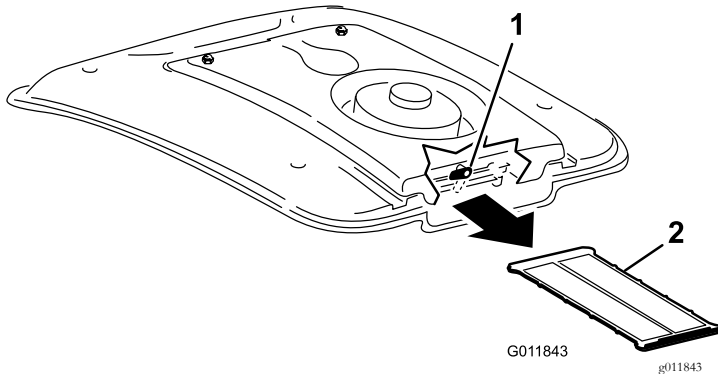

Figure 88
2. On the rear of the fan mount, rotate the latch to the side (Figure 88).
3. Slide the A/C screen out from under the air conditioning coil (Figure 88).
4. Clean the screen thoroughly with compressed air (Figure 88).